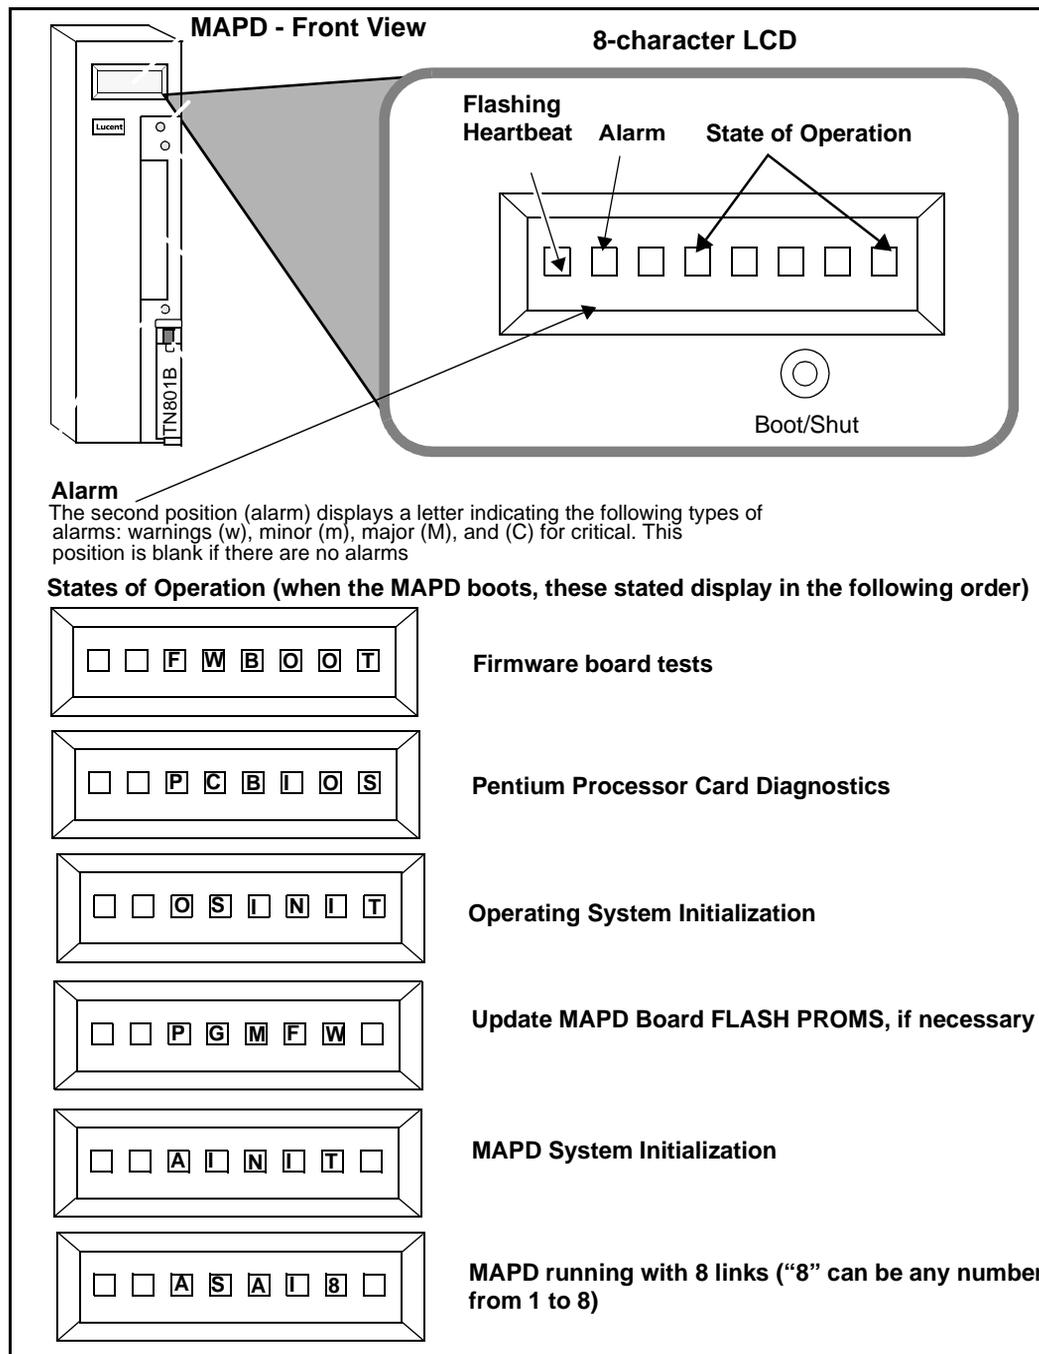

Figure 2-7. MAPD System LCD Display
6. As the MAPD system comes up, watch the Liquid Crystal Display on the faceplate (see Figure 2-7). The LCD identifies the MAPD states and alarms. When the MAPD system is coming up, the LCD should display the following states (in order):